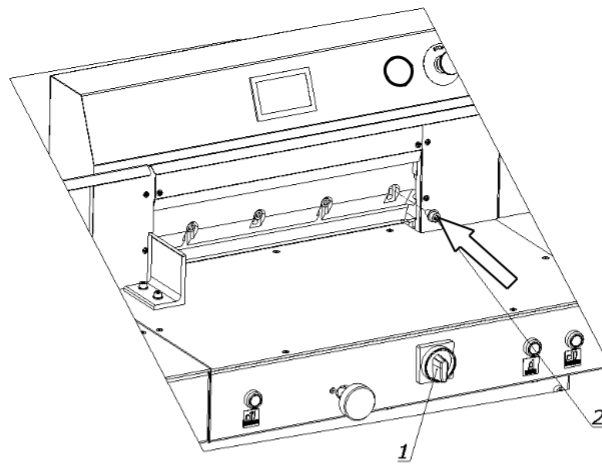

Figure 32a
8.1.2.11. Screw in the bolt 2 lightly (fig.32a)